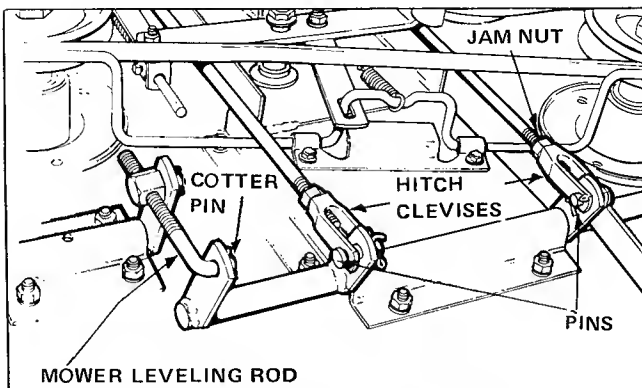

Figure 39. Leveling Mower
5. Remove the cotter pin holding on the mower leveling rod (figure 39). Shorten the rod to raise the left side of the mower, or lengthen the rod to lower the left side of the mower. Put the leveling rod back in its hole and recheck the measurements. When both sides are the same height, replace the cotter pin in the leveling rod.
8. Remove the cotter pins and pins from the hitch clevises (figure 39). Turn each clevis an equal number of turns in the same direction, shortening the hitch rods to raise the front of the mower, and lengthening the hitch rods to lower the front of the mower.